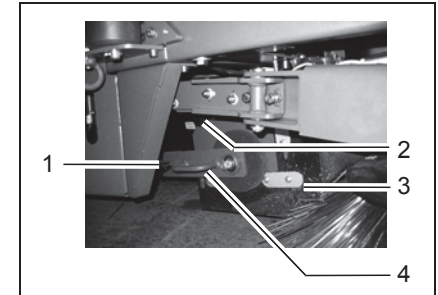

Fig. 43
4. Unscrew the knurled screw for the brush swing arm (Fig. 43/1).
5. Pull off the brush swing arm (Fig. 43/4).
6. Unscrew the knurled screw for the brush space cover (Fig. 43/2).
7. Remove the brush space cover (Fig. 43/3).